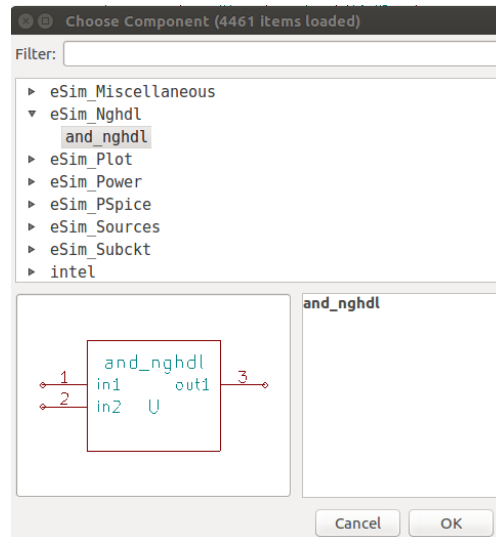
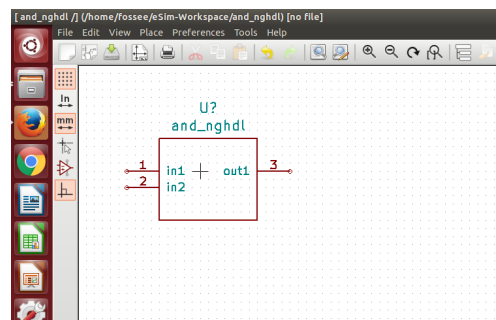

Figure 9.8: Locating the component in library
Figure 9.9: Placement of component on editor
3. Next step is to locate the component in eSim_Nghd1 library as shown in Fig. 9.8 and place it on the schematic editor as shown in Fig. 9.9.